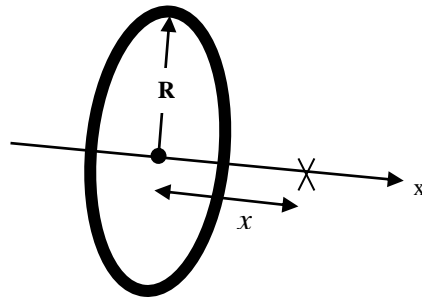

Figure 1: Single coil
6. Obtain the corresponding value of x for each ℓ measured using Excel sheet. Note that the value of ℓ measured is not the quantity x appearing in Eqs. (1), (2) and Figures 1, 2. Here, you have to figure out a proper way to relate ℓ and x .